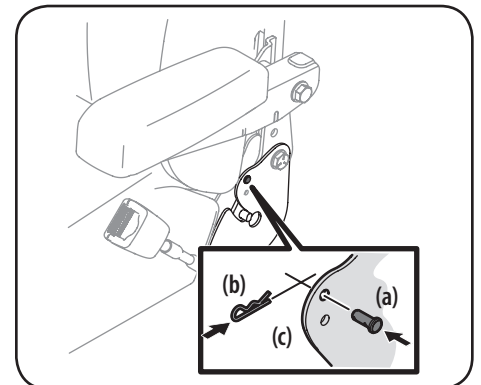

Figure 2-10
- Tilt the seat forward until the recliner bearing plate (c) is below the clevis pin (a) and then re-insert the cotter pin (b) to secure the seat in place. See Figure 2-10.
The seat tilt is controlled by the knob on the left of the seat. Turn the knob rearward to tilt the seat back, turn the knob forward to tilt the seat forward. See Figure 2-10.